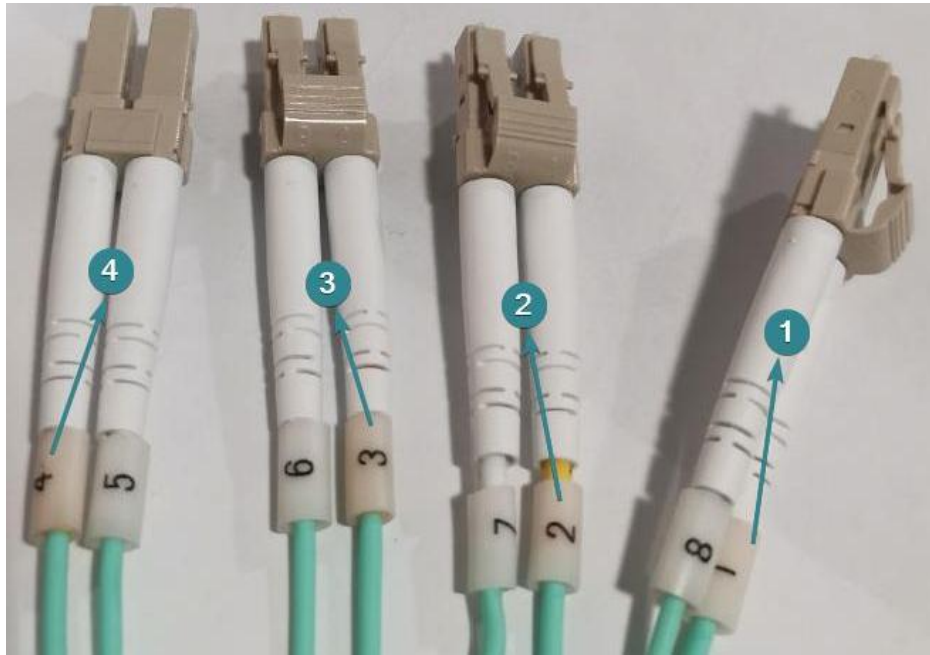

Figure 3-13 Fiber Optic Cable Assembly Order Identification Instructions
- 3)** Each fiber optic cable has 4 groups of interfaces, with two lines per interface and two values in each group in ascending order. Please refer to the smaller value as shown in Figure 3-13.